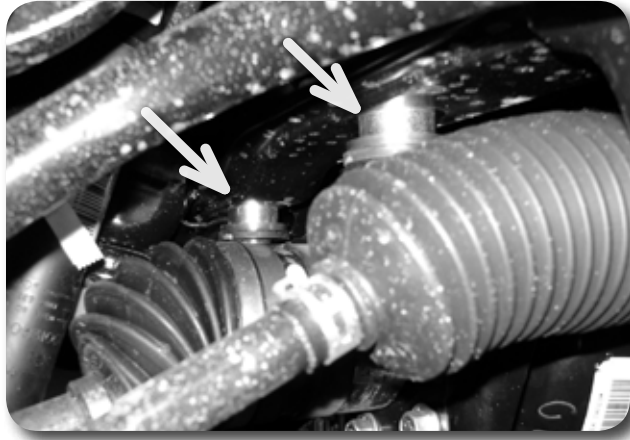

Figure 5
15. Repeat steps 13 & 14 for the other side of the vehicle. **Figure 5**